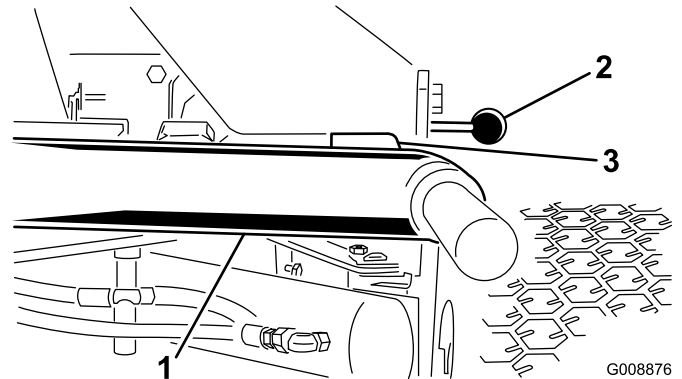

Figure 25
1. Start the engine, raise the lift arms, and check to ensure that the clearance between each lift arm and the floor plate bracket is 0.18 to 0.32 inches (5 to 8 mm) (Figure 25).